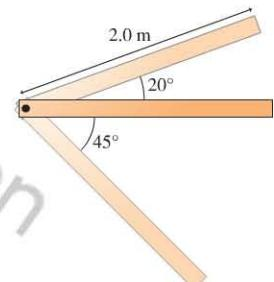

FIGURE P7.22
22. The 2.0-m-long, 15 kg beam in Figure P7.22 is hinged at its left end. It is “falling” (rotating clockwise, under the influence of gravity), and the figure shows its position at three different times. What is the gravitational torque on the beam about an axis through the hinged end when the beam is at the